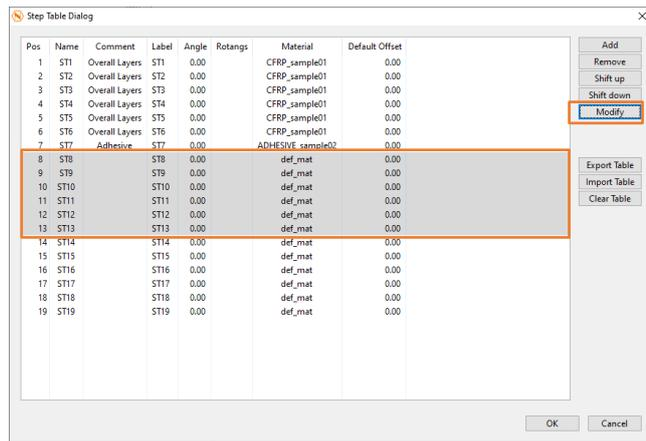

Figure 235
20. Step 8 to 13 are used for our leading-edge reinforcement plies. As mentioned in step 9, we can select them one by one while pressing the **-CTRL-** button on the keyboard or by clicking on the eighth step and press **-SHIFT-** while clicking the thirteenth step. Next click (Figure 235).